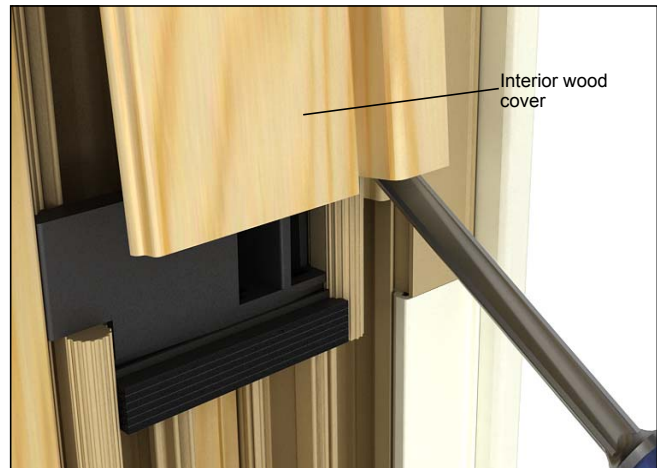

Figure 2
1. Remove the interior wood cover. See figure 2.